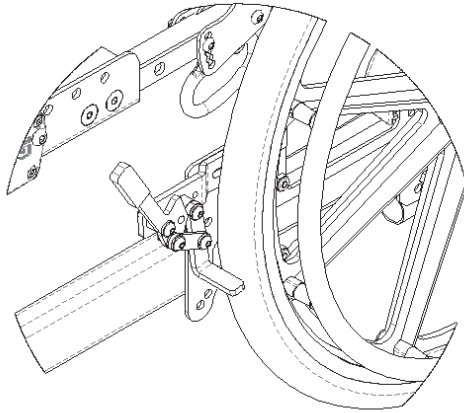

Figure 16.36: *Push to Lock Wheel Locks (Standard)*
1. To engage the push to lock wheel lock (see Figure 16.36), push the lever forward, away from the wheel, until it locks into place.